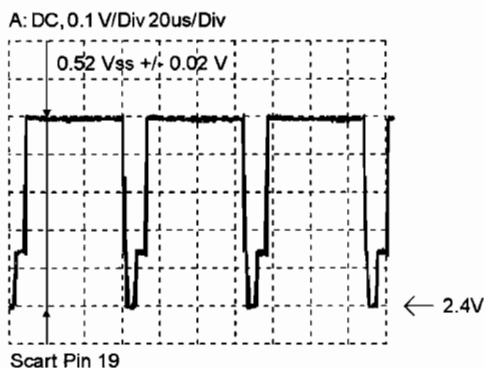

Fig. 1
- Adjust resistor 3010 until the amplitude of the output voltage is $0.52 V_{pp} \pm 0.02 V_{pp}$ (Fig.1).